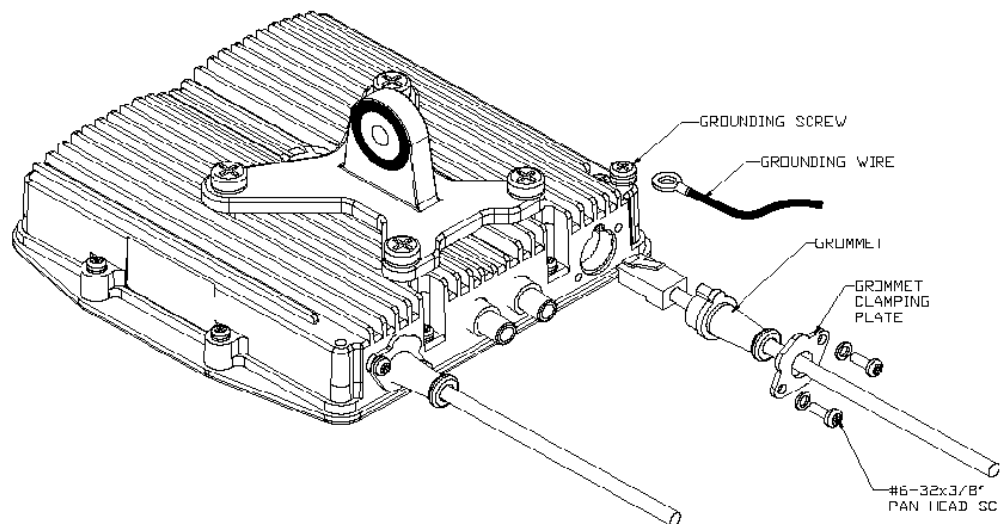

Figure 2-5: Cable assembly to Outdoor Unit
- Insert the RJ-45 to the Outdoor Unit (Figure 2-5).